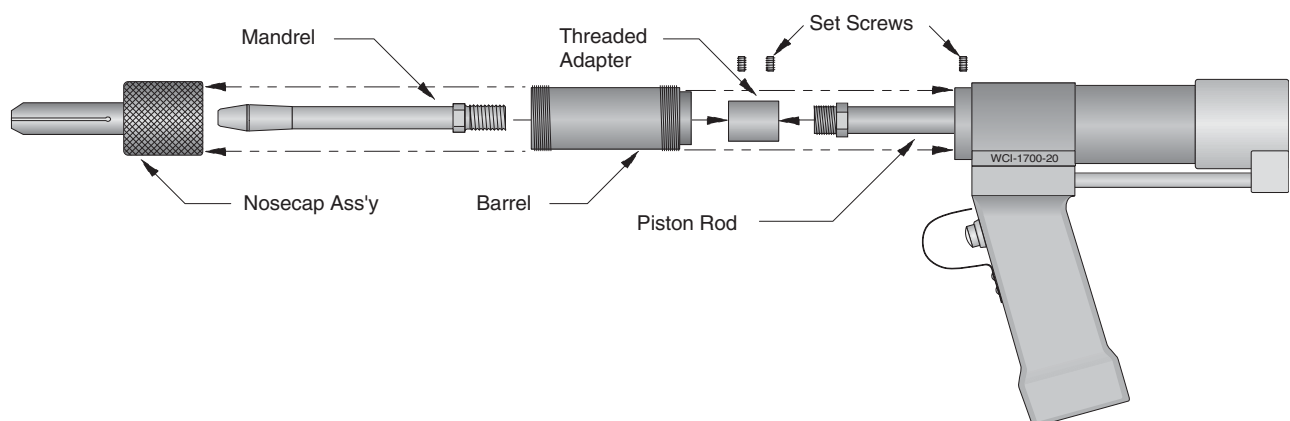

Figure 4-01 — Exploded View of Standard Puller Gun
- 4.6.1 Procedures for assembling standard system. Ref. Fig. 4-01.
- 4.6.2.2 Remove the threaded barrel from the puller unit. Remove the threaded adapter from the piston rod of the puller unit. Ref. Fig. 4-01.